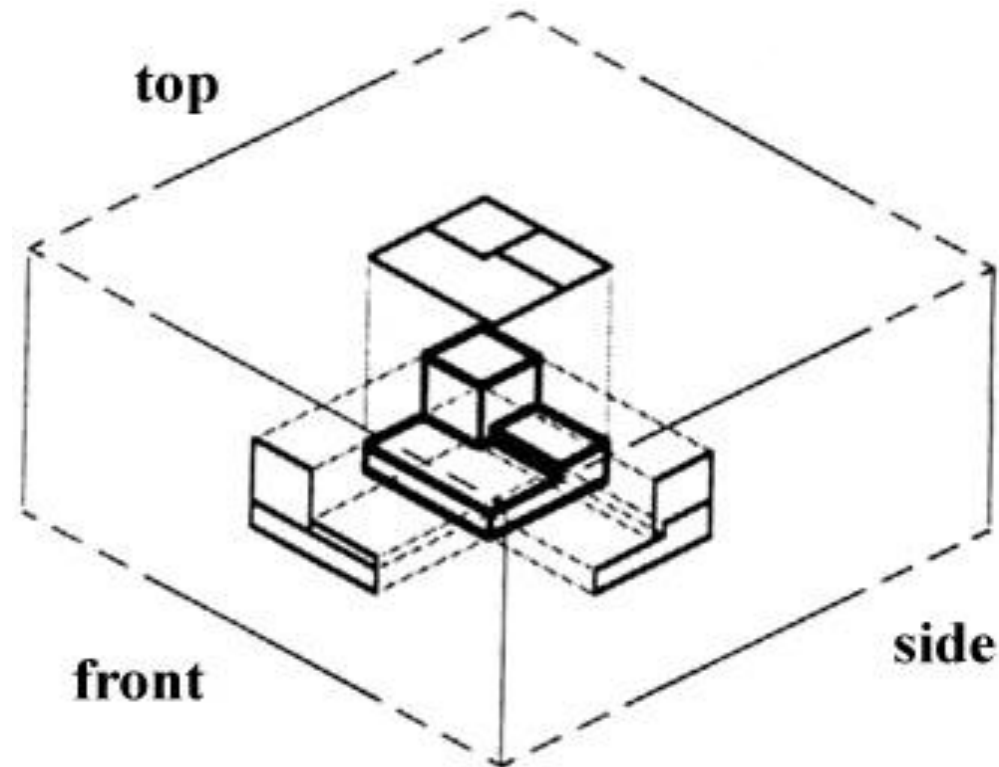

Figure 3 - The block suspended in a glass box
- Imagine that you have an object suspended by transparent threads inside a glass box, as in figure 3.